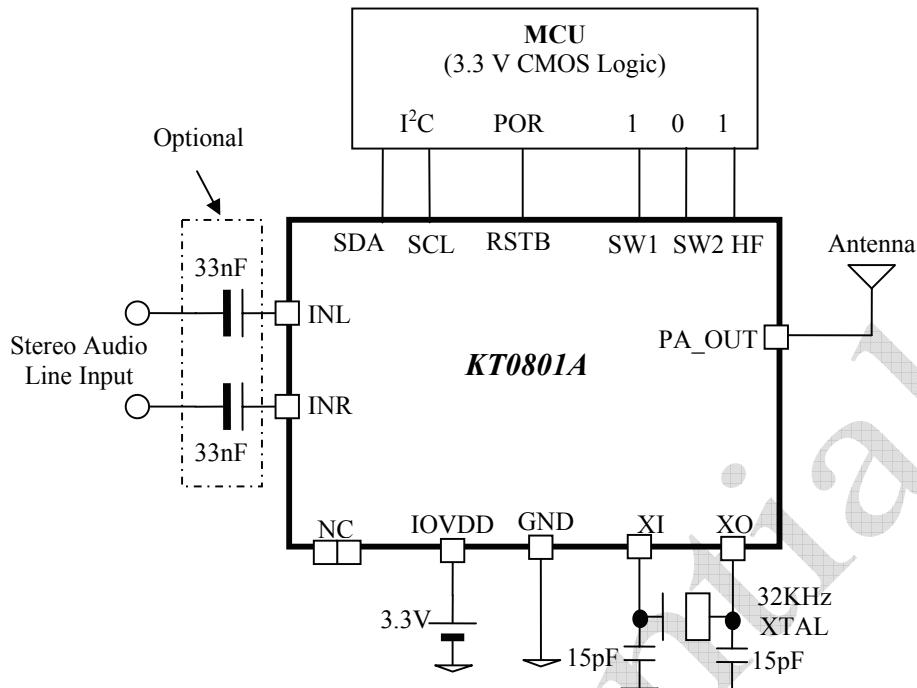

Figure 9: Typical application configuration with a 3.3V supply
Figure 9 shows a configuration with zero external components. Figure 10 shows a setup with an external inductor (FB) to boost the transmission power.